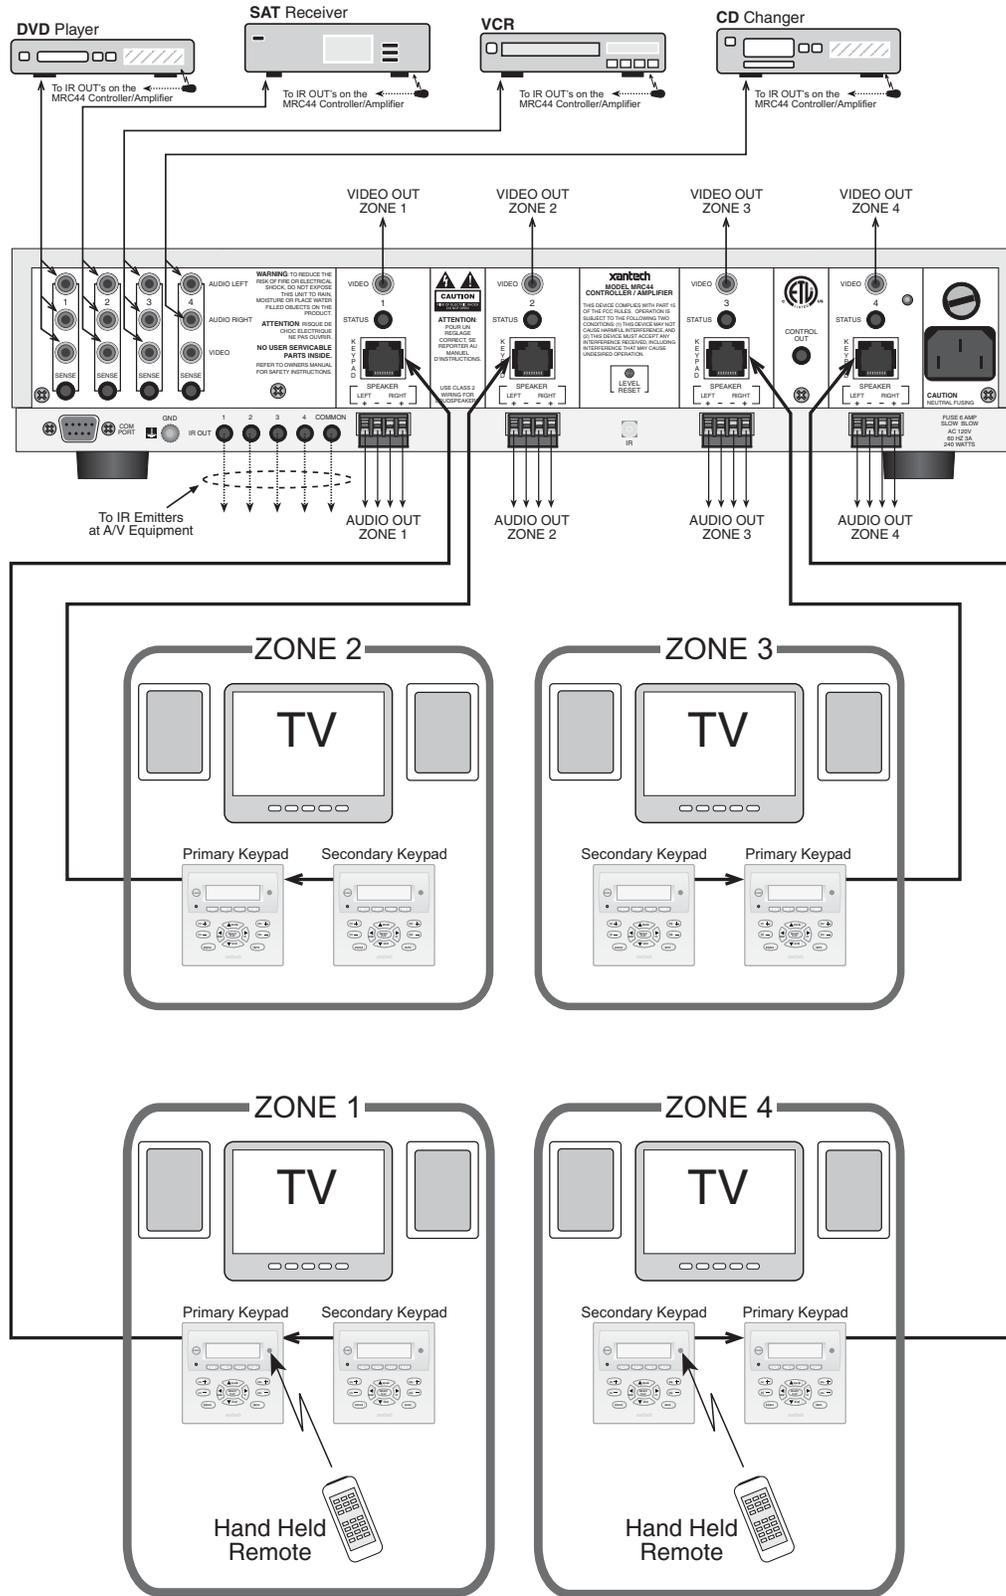

Figure 13 –Typical MRC44 System
Using good quality RCA-type video patch cables connect the VIDEO OUTPUT jacks of the source component to the VIDEO INPUT jacks on the MRC44. Do this for each source Component. Refer to **Figure 13**.
To better demonstrate the ease and versatility of programming the MRC44, **Figure 13** will be used to illustrate setup for a typical application.
3. Assemble the components into a working MRC44 system such as that shown in **Figure 13**. Testing the system prior to installation can sometimes save time with unexpected problems.